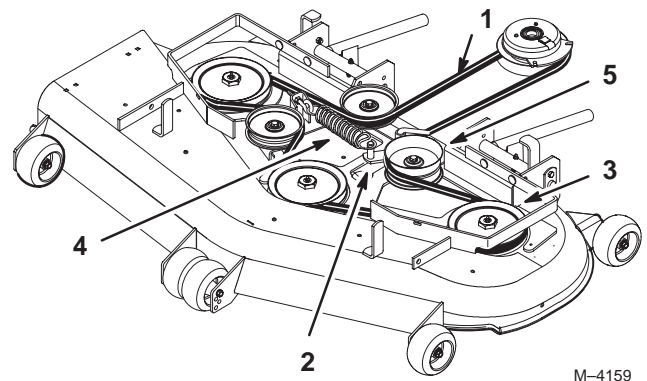

Figure 58
4. Remove the belt. Start at the outside pulley and rotate the belt off (Fig. 58).
7. Install the idler pulley and route the belt onto the other pulleys (Fig. 58).